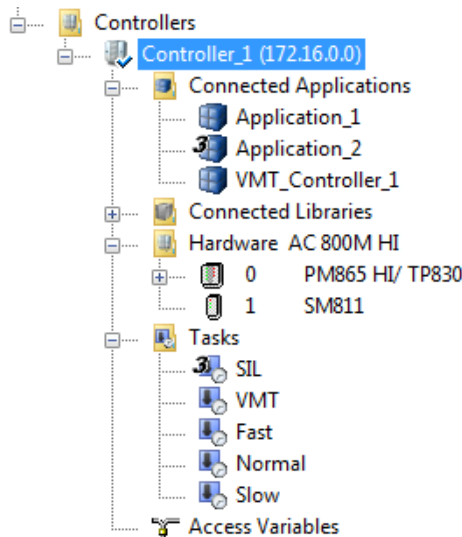

Figure 3. AC 800M High Integrity controller
An AC 800M High Integrity (HI) controller consists of a PM865/PM867 processor unit and a number of HI-specific objects that are added to the hardware tree, see Figure 3.